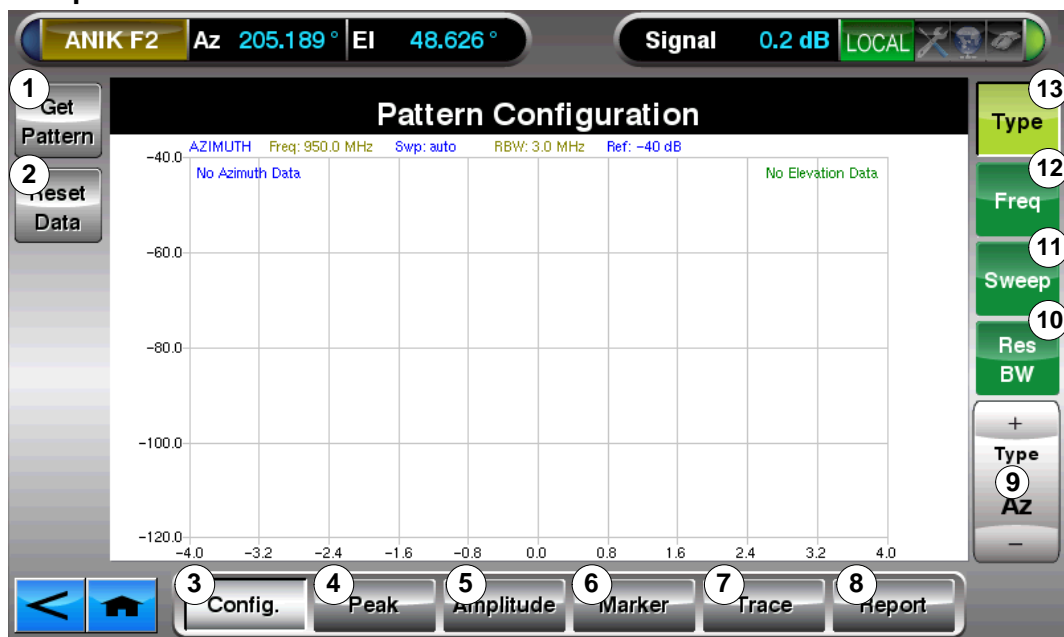
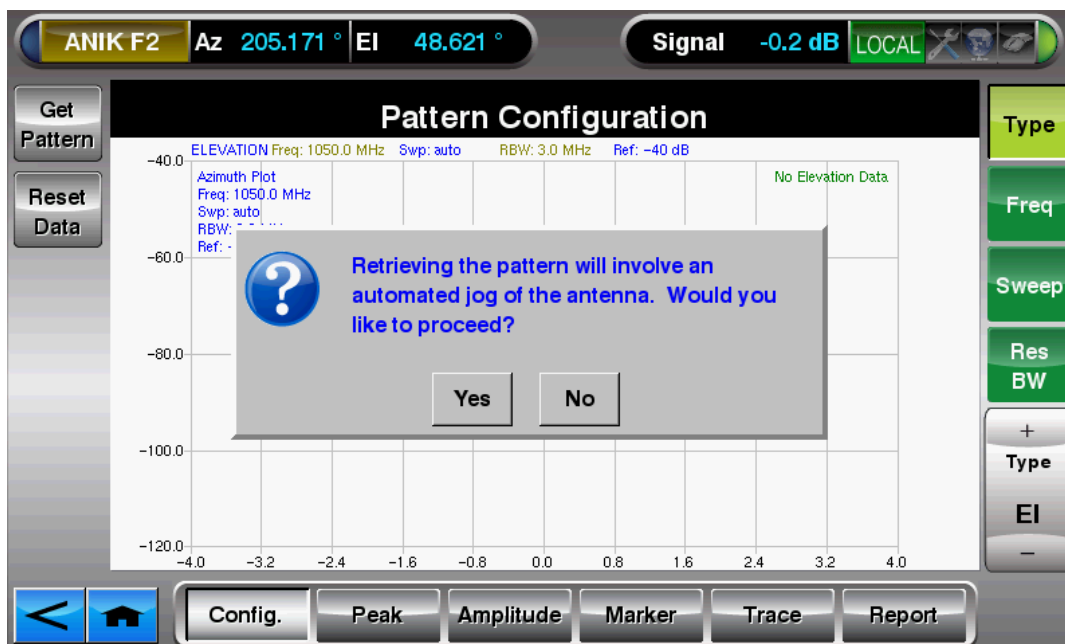

FIGURE 5-2: PATTERN TEST CONFIGURATION PAGE
FIGURE 5-3: CONFIRMATION DIALOGUE BOX
6. Clear out any old plot patterns, if necessary, by pressing “Reset Data” (**Item #2** in **Figure 5-2**)
To **execute a plot sweep** for the selected axis (either Az or EI, not “Az & EI”), press “**Get Pattern**” (Item #1 in **Figure 5-2**). As the system executes the sweep, please take note that a Dialogue Box will warn you of the jog that is associated with taking the pattern (**Figure 5-3**), and will ask for confirmation that you wish to proceed.
Once Pattern Test is complete, for one axis or both, it is best to next create and save a Test Report. Begin by pressing “Report” button at bottom of screen (see **Figure 5-2**) to go to the Report Page (**Figure 5-10**).